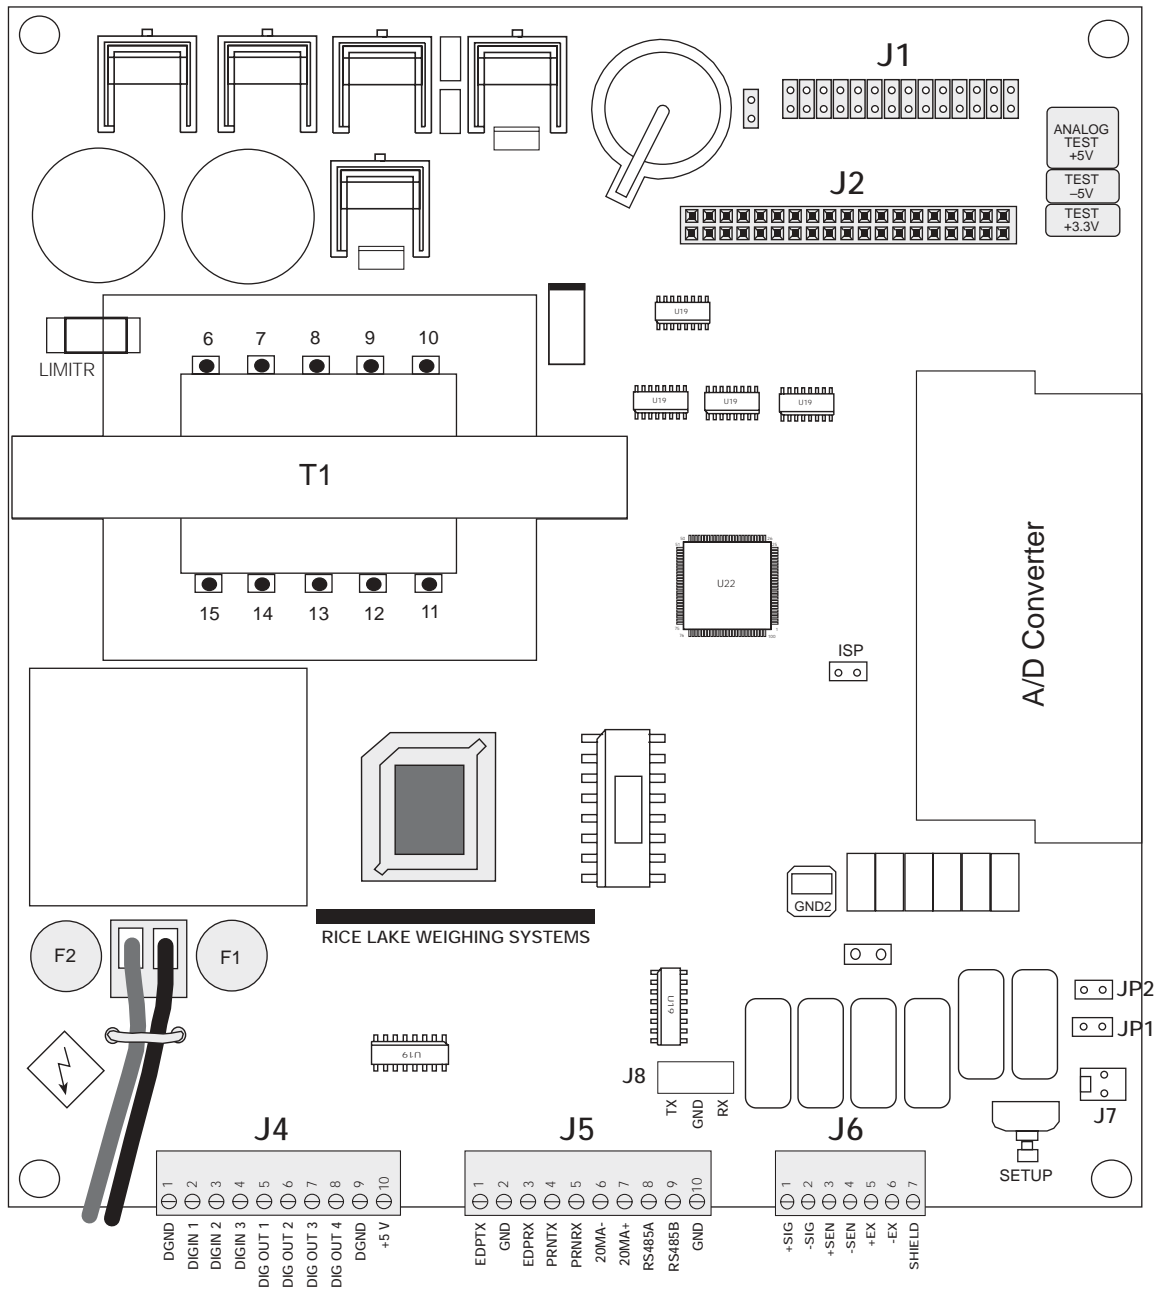

Figure 2-5. 520 CPU and Power Supply Board
2. Unplug connectors J6 (load cell cable), J5 (serial communications), and J4 (digital I/O). If an analog output board is installed, disconnect the analog output cable. See Figure 2-5 on page 9 for connector locations.